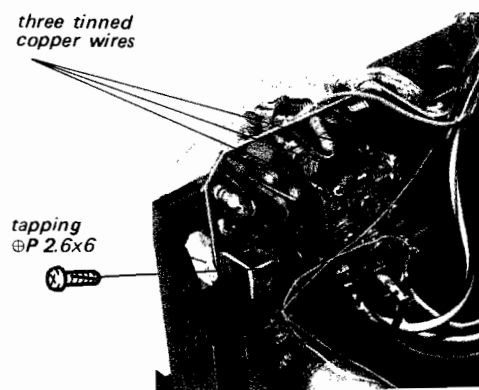

Fig. 2-4
2. Unsolder the three tinned copper wires at the tuning capacitor shown in Fig. 2-4.
4. Remove the screw shown in Fig. 2-4.